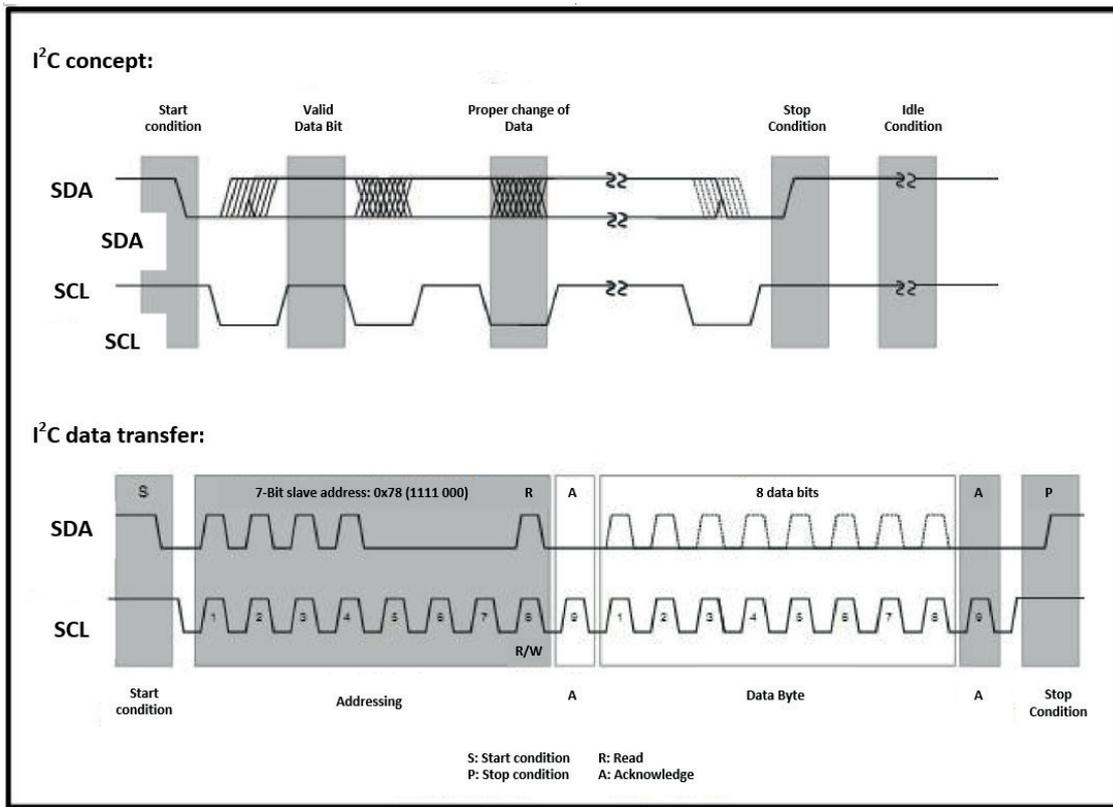

Figure 3. I²C Standard communication protocol
I²C standard protocol is showed in **Figure 3**.
- **START condition (S):** Each data transfer starts with the start condition, which is always sent by the master. This start condition acts as a signal to all I²C connected devices giving information that there will be something transmitted. The start condition is defined as a transition from HIGH to LOW on the SDA line when the SCL line is HIGH (see Figure 3).
- **STOP condition (P):** Each data transfer stops with the stop condition, which is also generated by the master when a data transfer has finished. Stop condition is defined as a transition from LOW to HIGH on the SDA line when the SCL line is HIGH (see Figure 3).
- **Valid data:** Data is always transmitted in bytes (8 bits) starting with the MSB (most significant bit). One data bit is transferred with each clock pulse. Transmitted data are valid (after generating start condition) only during HIGH period of clock and data changes can be done during LOW period of clock (see Figure 3).
- **Acknowledge (A):** Each sent byte needs to be followed with the acknowledge bit generated from the receiver that correct data has been received. Acknowledge means also that device can continue with further data transfer. For that purpose, the master must generate extra clock pulse. The transmitter releases clock HIGH during acknowledge clock pulse, if not then further bytes will not be sent.
- **Slave address:** After the start condition, the master sends the addressing byte - slave address to define with which slave device he wants to communicate. This addressing byte includes 7-bit slave address (up to 128 devices) + 1 R/W bit (data direction bit). If R/W bit is set to “0” (W) then master wishes to transmit data to the selected slave. If R/W bit is set to “1” (R) then the master request data from the slave. The addressed slave answers with an acknowledge, all other slaves connected to the I²C-bus ignore this communication.
Figure 3 shows a complete data transfer. After generating the start condition, the master also sends the slave address with data direction bit (R/W), which gives read or write transfer. The addressed slave replies to this request always with the acknowledge (A) first. Now, unlimited numbers of data (bytes) can be transferred, which needs to be always confirmed with the acknowledge bit. This transfer can be stopped by the master by generating the stop condition. If master wishes to communicate also with another slave address, then can generate a second start condition without stopping the first one.